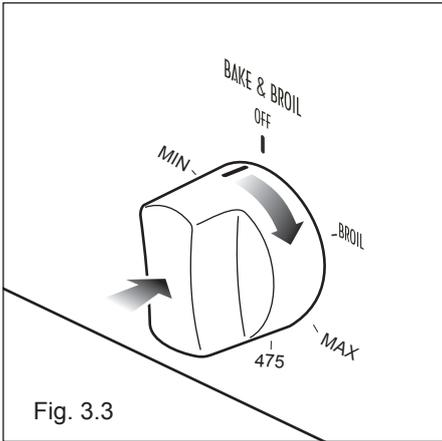

Fig. 3.3
2) Turn the knob to the **BROIL** position, Fig. 3.3. the oven automatically ignites, and it lights within 5.5 seconds; if it can't be lighted for the first time, it will ignite again after 12 seconds, and lights within 5.5 seconds; If it can't be lighted after repeating for 3 times, you need to reset the knob to OFF and then turn it on again.